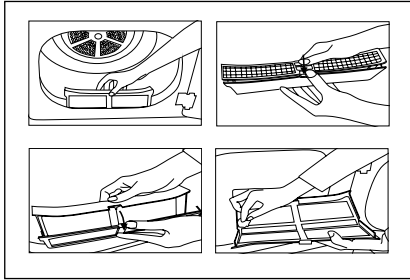

Figure 1
- 2.a) If the product's lint filter can be opened as shown in Figure 1, remove the filter by pulling it up and open the filter.